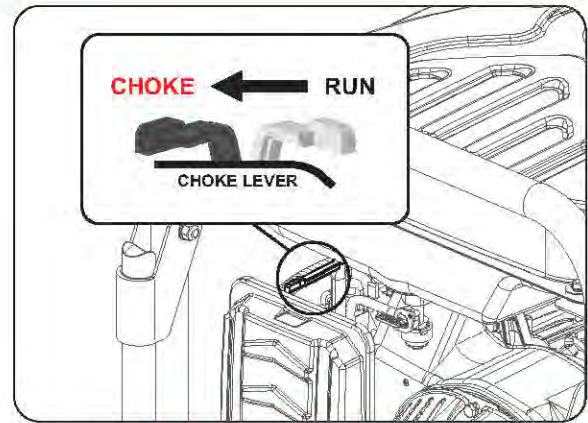

Fig 11 **SKIP THIS IF THE ENGINE IS WARM OR HOT.**
- Slide the choke lever to the "Choke" position. (See fig 11) **SKIP THIS IF THE ENGINE IS WARM OR HOT.**